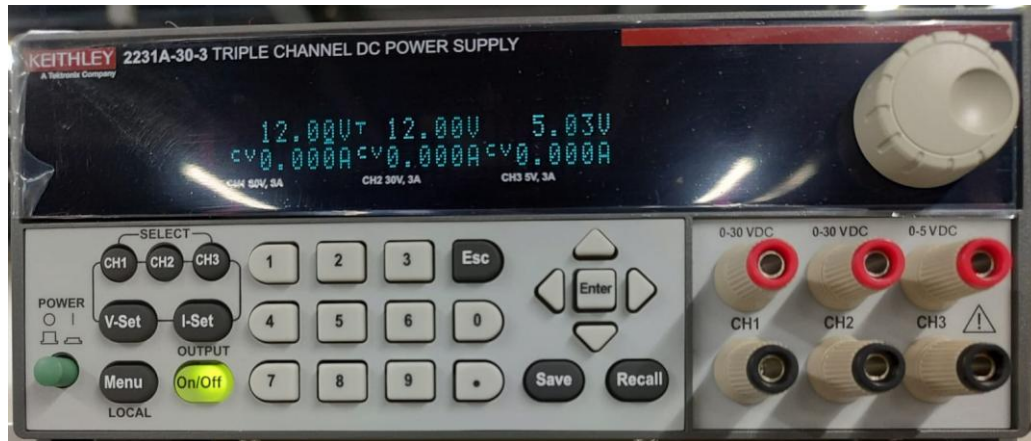

Fig. 1 Keithley Model 2231A-30-3 Triple Channel Programmable DC Power Supply (Front panel image)
1. Familiarize yourself with the front panel of the Keithley Model 2231A-30-3 Triple Channel Programmable DC Power Supply (see Fig.1).
- b. Switch ON the Keithley Power Supply. Initially, ensure that the DC output voltages are not enabled. DC output voltages are enabled by pressing the ‘**Output On/Off**’ button. When the output voltages are enabled, the button gives a green colour, as shown in Fig. 1.
- Ensure that the pins are connected correctly, as shown in Fig. 1. Take extra care in ensuring the IC orientation; otherwise, the IC will be damaged at power ON.